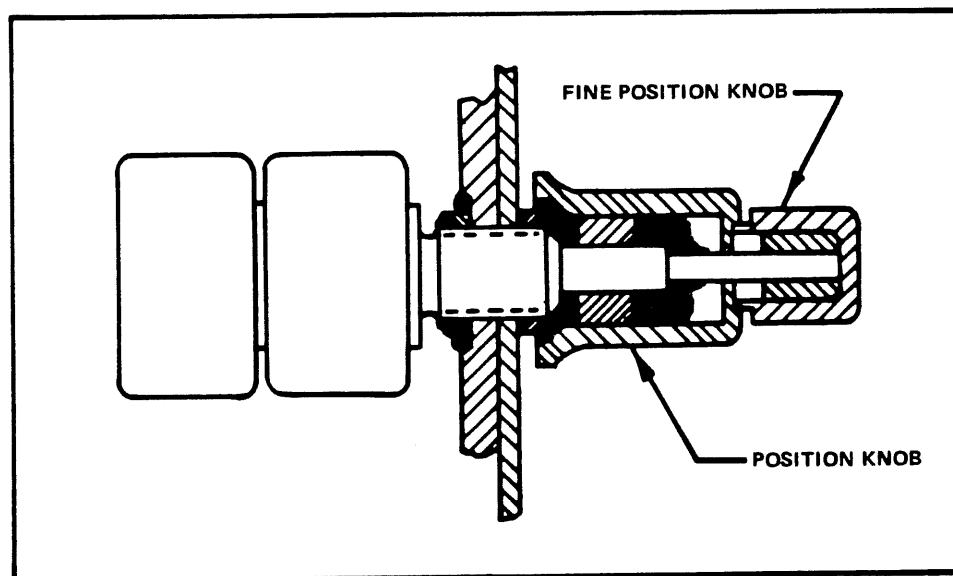

Figure 27. Installation of knob on shaft.
(2) Assemble the POSITION knob and the FINE POSITION knob on the control shafts as shown in Figure 27.